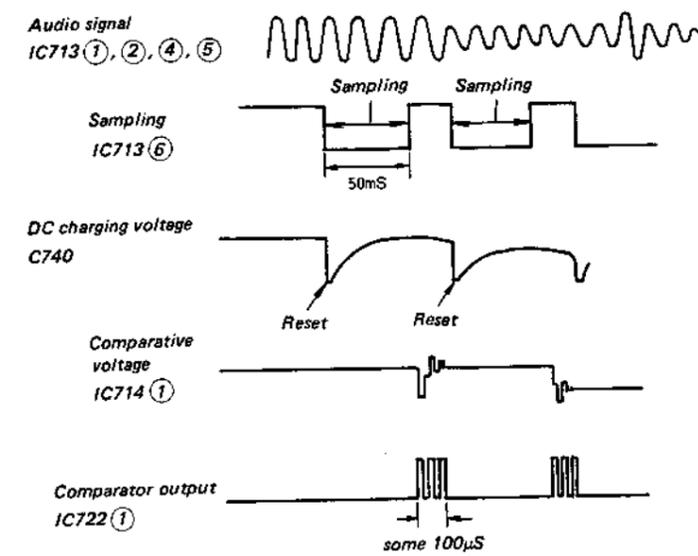
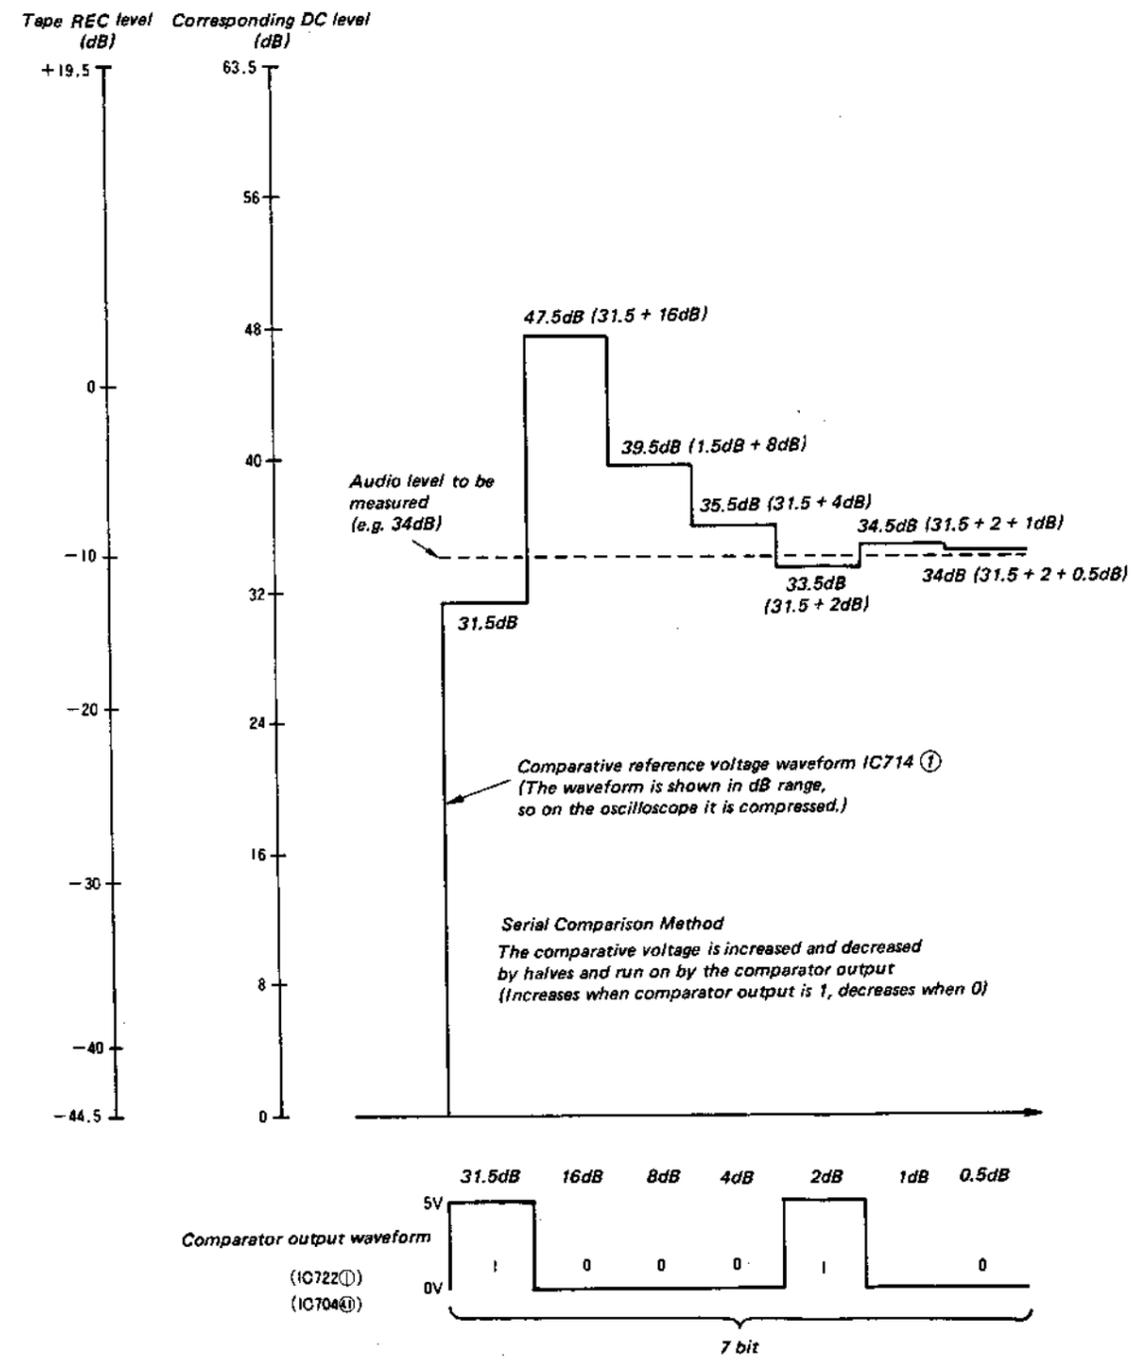

Fig. 16
Fig. 17
As in Fig. 16, among the signals applied to IC713 output, the source signal or tape signal L or R is selected by IC704 (micon) and when IC713 pin (6) is low, outputs from pin (3). The signal from pin (3) passes through the circuits, inputs to IC714 pin (5), and the audio signal is rectified. This rectified voltage is charged to C740 and is simultaneously applied to IC722 pin (3). The voltage of IC722 (3) and (2) are compared. The voltage applied to (2) results from a combination of from 0.5dB to 32dB resulting from signals output from IC704 (9) - (12), (26) - (28). First 31.5dB voltage is applied to (2). (turns on Q738) The voltages of (2) and (3) are compared, and if the result is that voltage on (3) is higher, IC722 (1) goes high, and this is applied to IC704 pin (41). Next, 16dB is applied to the 31.5dB voltage above, and the resulting 47.5dB is applied to pin (2). Then it is compared to voltage at pin (3) and that result is applied to IC704 pin (41). In this way the successive comparisons are made, ending with 0.5dB, and the microcomputer reads the audio signal level as dB value (digital data). (Serial comparison method, shown in Fig. 17.)
As in Fig. 16, among the signals applied to IC713 output, the source signal or tape signal L or R is selected by IC704 (micon) and when IC713 pin ⑥ is low, outputs from pin ③ . The signal from pin ③ passes through the circuits, inputs to IC714 pin ⑤ , and the audio signal is rectified. This rectified voltage is charged to C740 and is simultaneously applied to IC722 pin ③ . The voltage of IC722 ③ and ② are compared. The voltage applied to ② results from a combination of from 0.5dB to 32dB resulting from signals output from IC704 ⑨ - ⑫ , ⑫ - ⑫ . First 31.5dB voltage is applied to ② . (turns on Q738) The voltages of ② and ③ are compared, and if the result is that voltage on ③ is higher, IC722 ① goes high, and this is applied to IC704 pin ④① . Next, 16dB is applied to the 31.5dB voltage above, and the resulting 47.5dB is applied to pin ② . Then it is compared to voltage at pin ③ and that result is applied to IC704 pin ④① . In this way the successive comparisons are made, ending with 0.5dB, and the microcomputer reads the audio signal level as dB value (digital data). (Serial comparison method, shown in Fig. 17.)